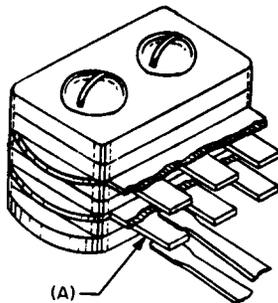

Fig. 3 — Position of the Wiper Tips on the Block Contacts
2.13 Overlap of Wiper Tips on the Block Contacts: Fig. 3 (A) — The tips of the wipers shall rest midway between the front and back of the block contacts.